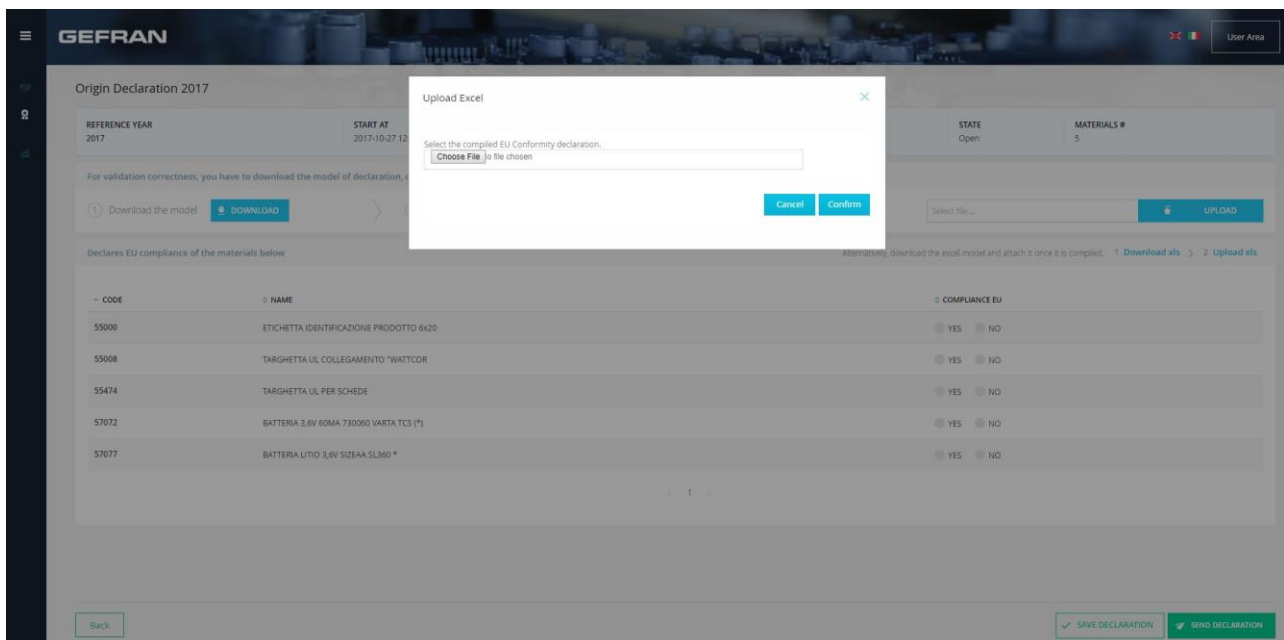

Figure 17 – Product origin excel file uploading
To compile through Excel file you need to press the **Download Template** link located below the **Upload** button, in order to download the template to be completed. After the download you must complete the file by entering for each material an 'X' under the **EU** (C) or **Non UE** (D) column. Once the Excel document is completed it must be uploaded again on the portal by clicking the **Upload Template** link: after the click a window in which you have to select the Excel file to import will appear. Finally press the **Confirm** button (Figure 17).